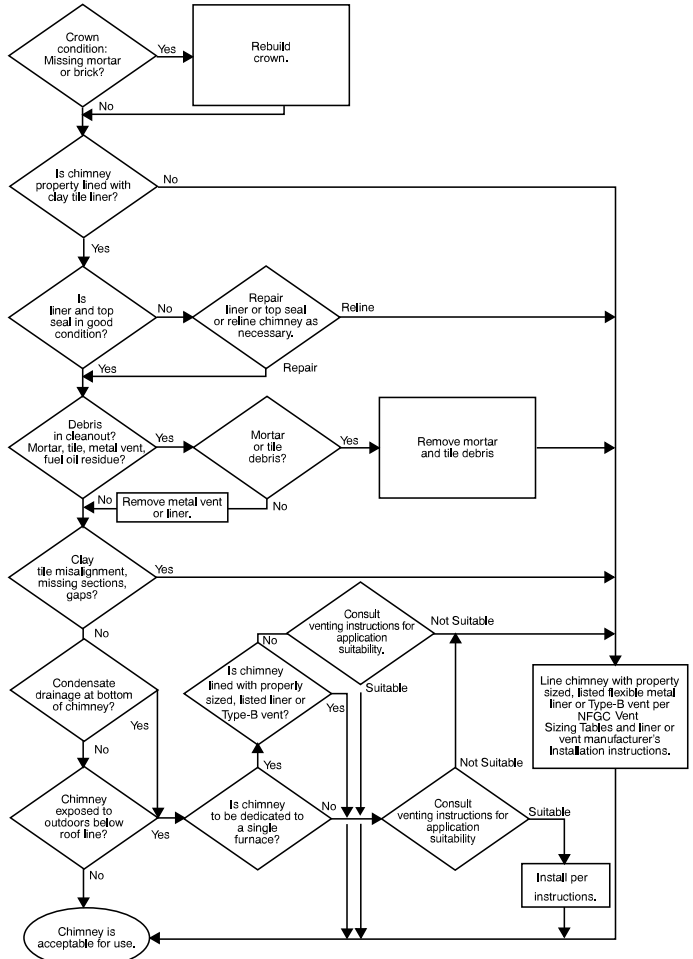

Fig. 27 – Chimney Inspection Chart
6. Do not vent this appliance into an unlined masonry chimney. Refer to Chimney Inspection Chart, Fig. 27.
If all of these conditions cannot be met, an alternative venting design shall be used, a listed chimney-lining system, or a Type-B common vent. Inspections before the sale and at the time of installation will determine the acceptability of the chimney or the need for repair and/or (re)lining. Refer to the Fig. 27 to perform a chimney inspection. If the inspection of a previously used tile-lined chimney: